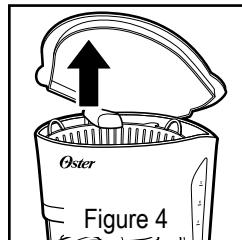

Figure 4
1. Open brew basket lid, turn showerhead to the back and lift out the removable filter insert. See Figure 4.